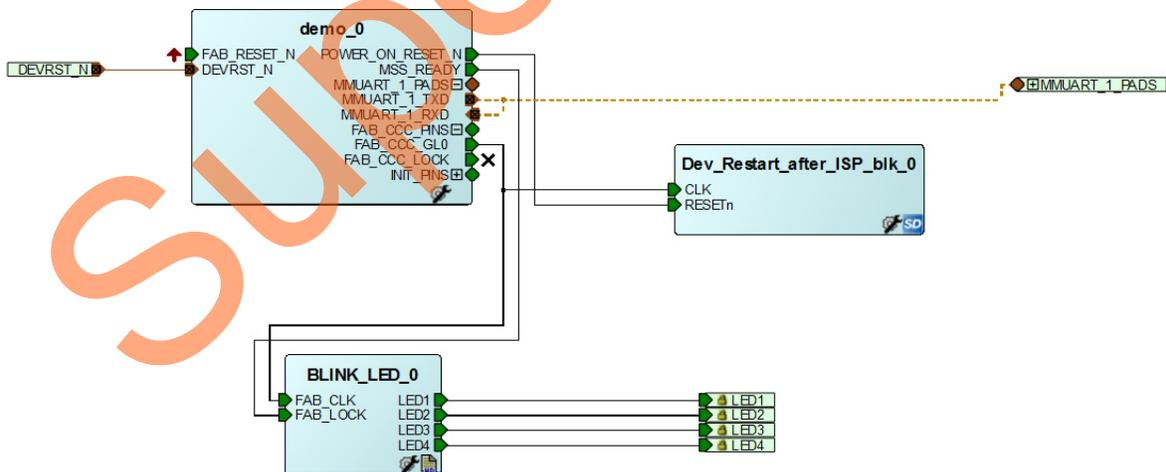

Figure 30 • demo_top SmartDesign
8. Make the connection as shown in Figure 30 and generate **demo_top** SmartDesign. This completes the implementation of the workaround.